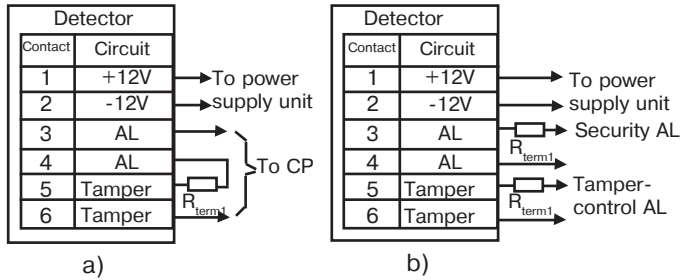

Figure 4
- Figure 4 a) for connection to single alarm loop;
- Figure 4 b) with tamper control connection to a singular loop.